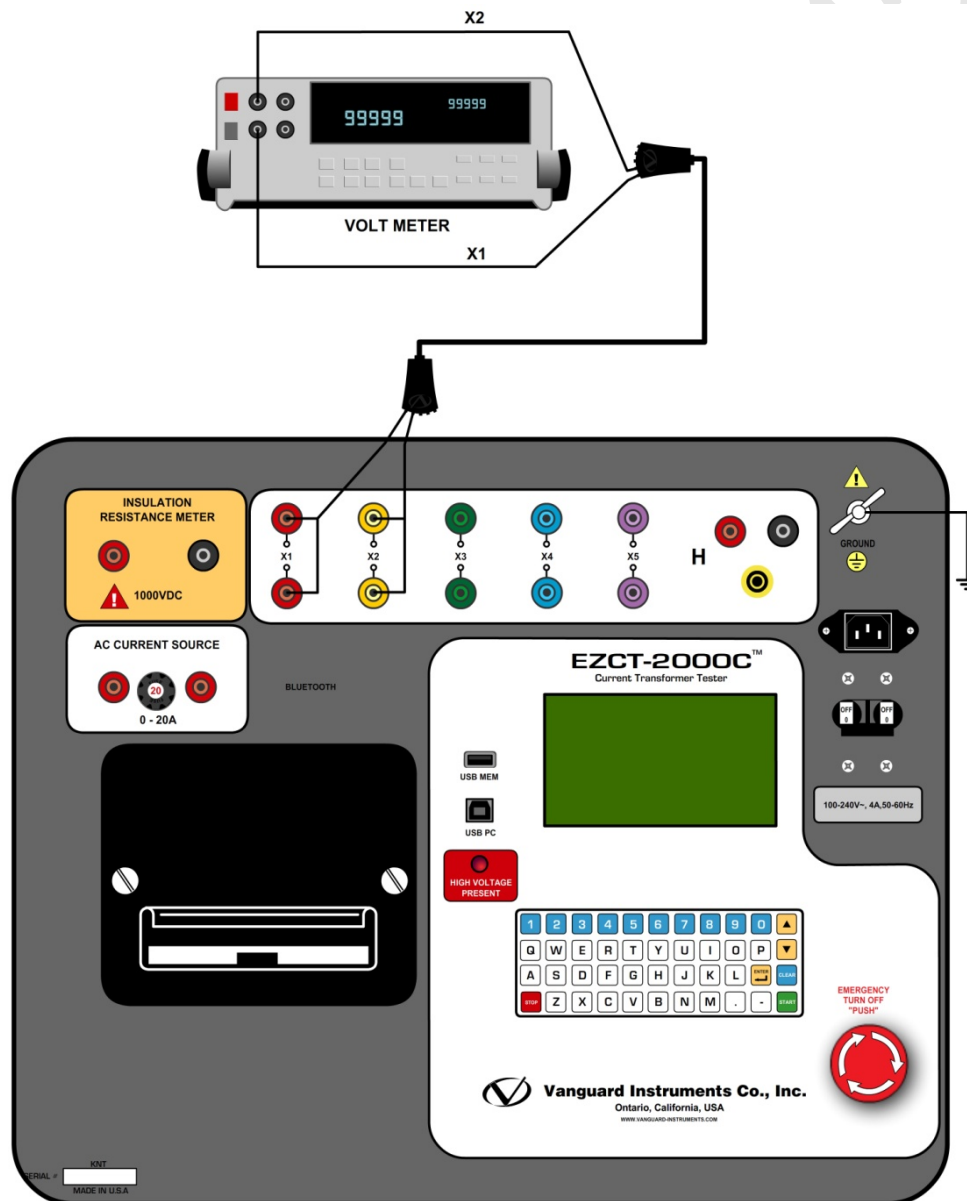

Figure 26. EZCT-2000C  $V_x$  Verification Test Connections
- Connect the X cables to an RMS volt meter as shown in Figure 26.